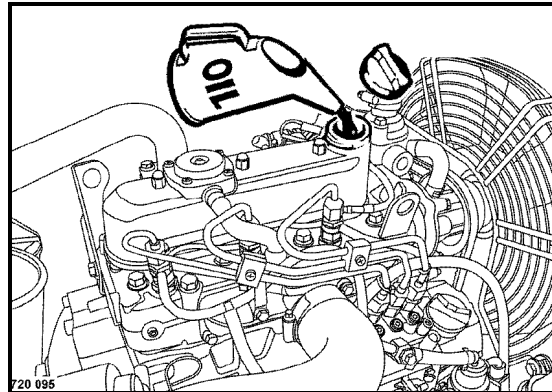

Fig. 101
- Fill in new engine oil (Fig. 101).